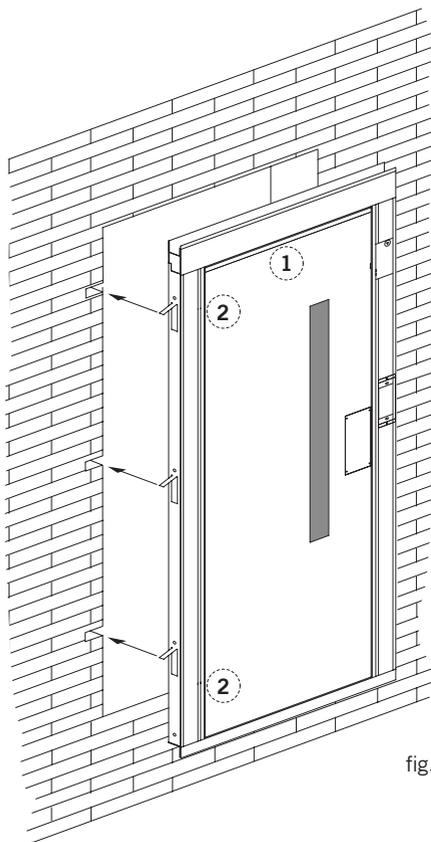

fig. 1
- 2° Fix the small tongues as shown in figure 1.